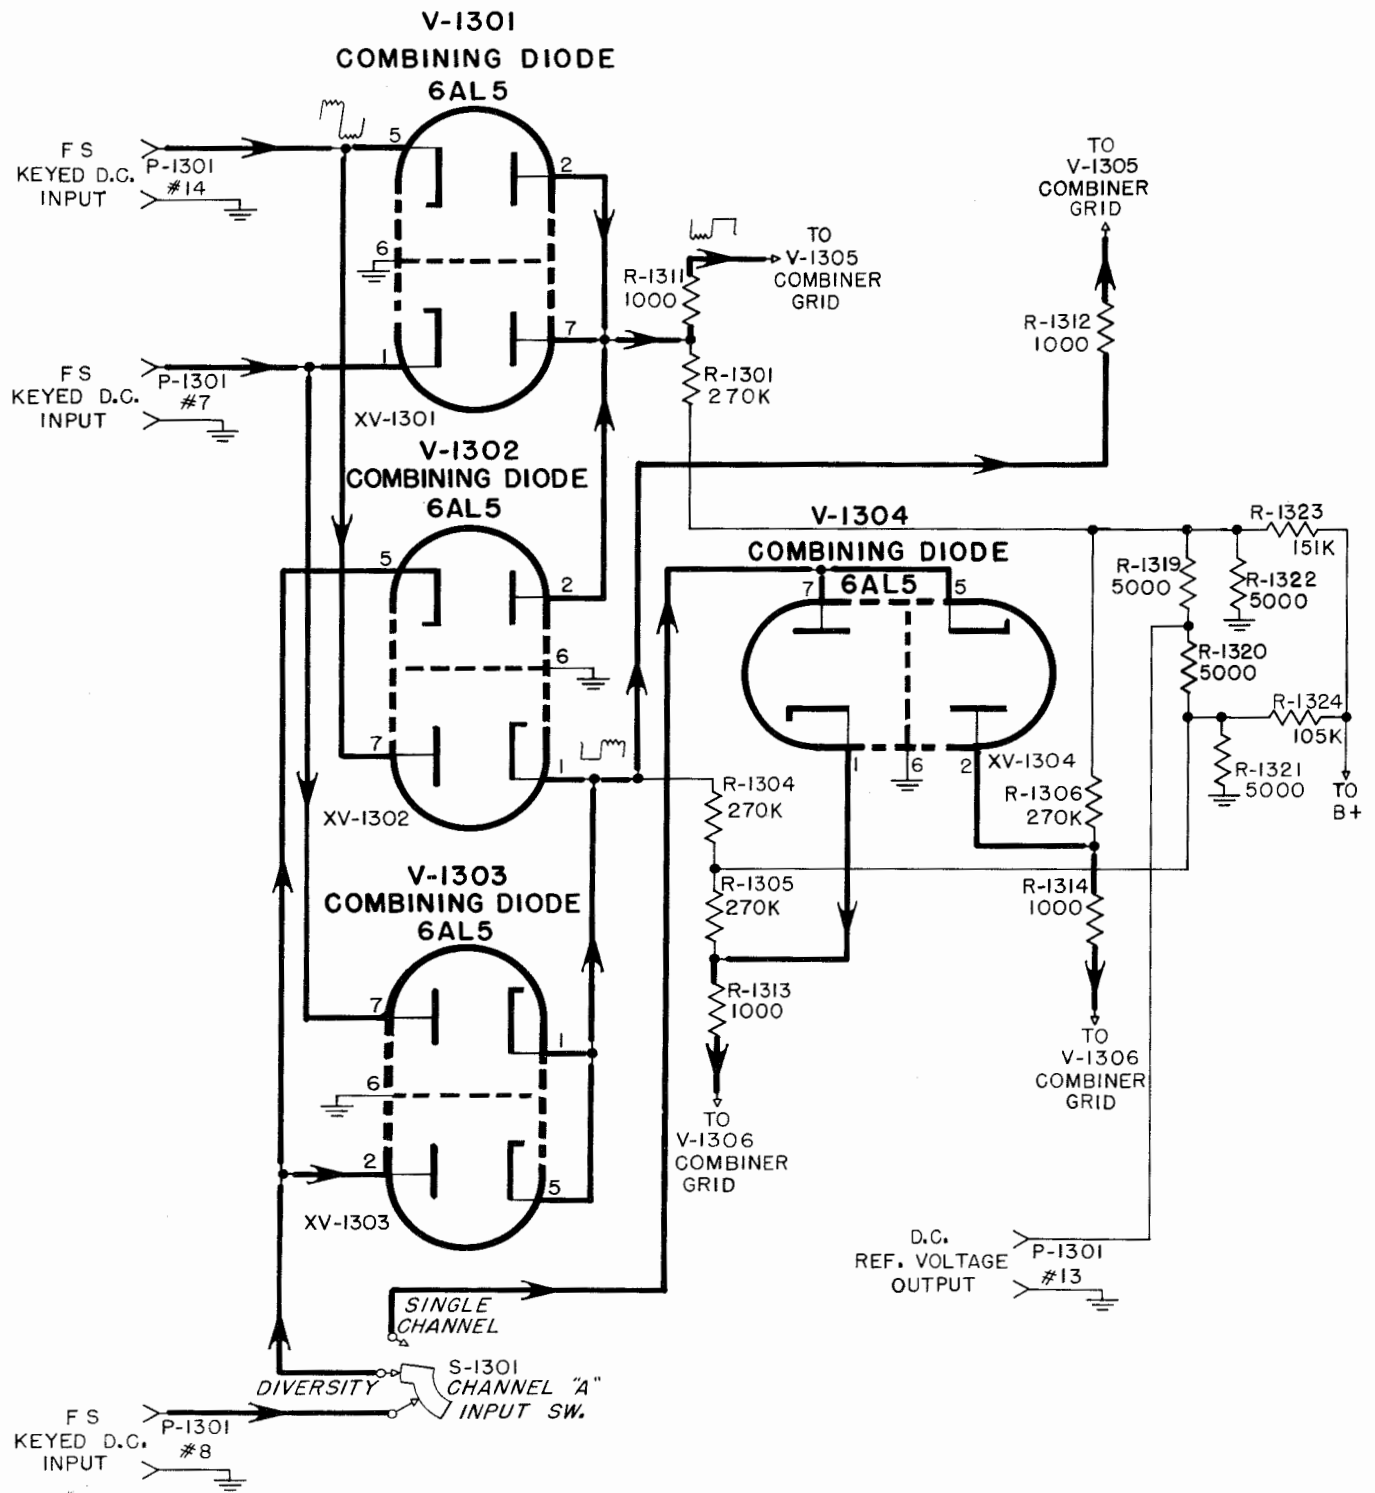

Figure 2-48. Combining Diode Stages V-1301, V-1302, V-1303, V-1304, Simplified Schematic Diagram
(10) COMBINING DIODE CIRCUIT, V-1301, V-1302, V-1303 AND V-1304 (CM-32/FRR-24). (See Figure 2-48).—The keyed output of three Frequency Shift Converters are applied to the combining diodes in Comparator-Keyer CM-32/FRR-24 through connectors J-1304, J-1306 and J-1307.